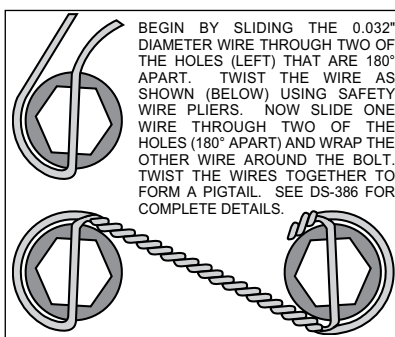

Figure 4. Safety Wire Diagram
- Mount bracket (6) to the backside of the spindle/hub assembly using bolts (11) and flat washer (12).
- With the larger I.D. side of the rotor (13) facing away from the hat (14), bolt rotor to hat using washers (15) and bolts (16). Apply red *Loctite*® 271 to the bolt threads and torque to 155 **in-lb** using a criss-cross pattern. For an added measure of security, the bolts may be safety wired using standard 0.032 inch diameter stainless steel safety wire as shown in Figure 4. Please refer to Wilwood's data sheet DS-386 (available at www.wilwood.com/Pdf/DataSheets/ds386.pdf) for complete safety wire installation instructions. Slip the rotor and hat combination onto the wheel studs and hold in place with three lugs nuts.
- Apply red *Loctite*® 271 to bolt threads (2) before mounting caliper to the caliper mounting bracket (1). **NOTE:** Be sure the heads of the 7/16-20 bracket (1) insert nuts are facing outward toward the wheel.